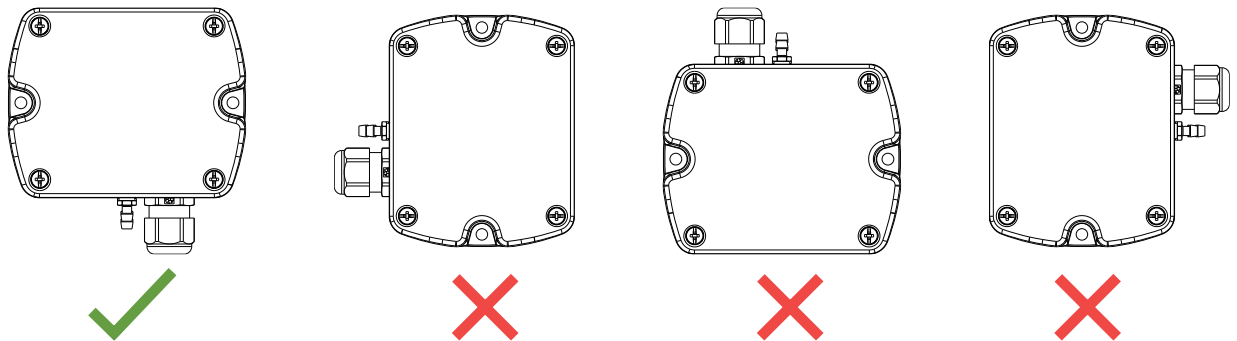

Fig. 4 Mounting orientation
1. Mount the sensor on the correct place. Pay attention to the alignment, (refer to Fig. 4 Mounting orientation).